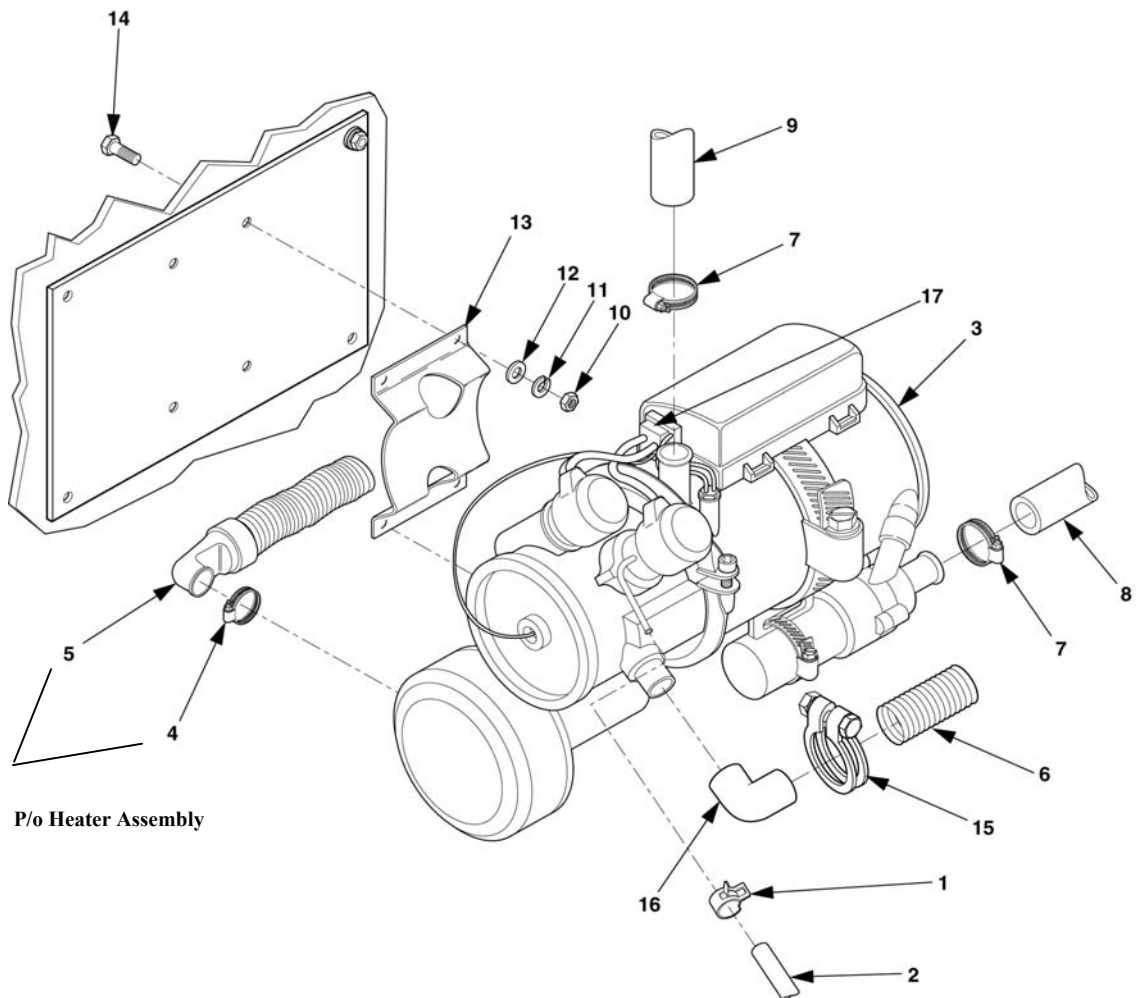

Figure 4-21. Heater Assembly Maintenance
3. Disconnect fuel clamp (1), Figure 4-21, and fuel line (2) from heater and drain any fuel from hose into a suitable container.
4. Disconnect wiring harness connector (17) from heater.
5. Remove screw clamp (15) and remove elbow (16) and exhaust hose (6) from heater (3).
6. Position a suitable container under heater to catch coolant from hoses, and loosen screw clamps (7) to disconnect coolant inlet hose (8) and outlet hose (9) from heater (3).
7. Remove four screws (14), lock washers (11), flat washers (12), nuts (10), and heater (3) with mounting plate (13) from bulkhead housing.